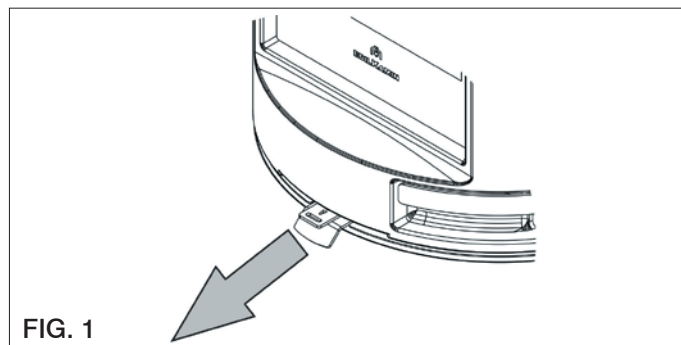

FIG. 1
- “Brazier Maintenance” position (Fig. 1)